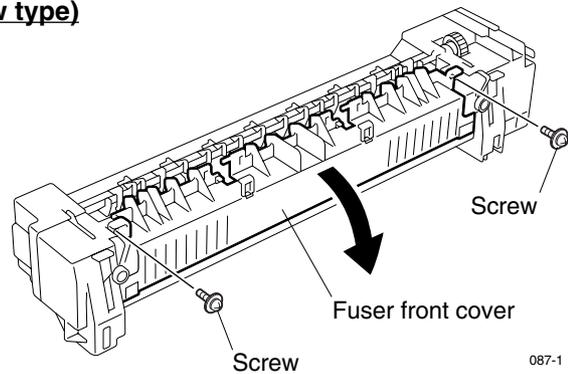

Fig. 14-7-3
2. Remove the fuser front cover. (See Figs. 14-7-3 and 14-7-4)